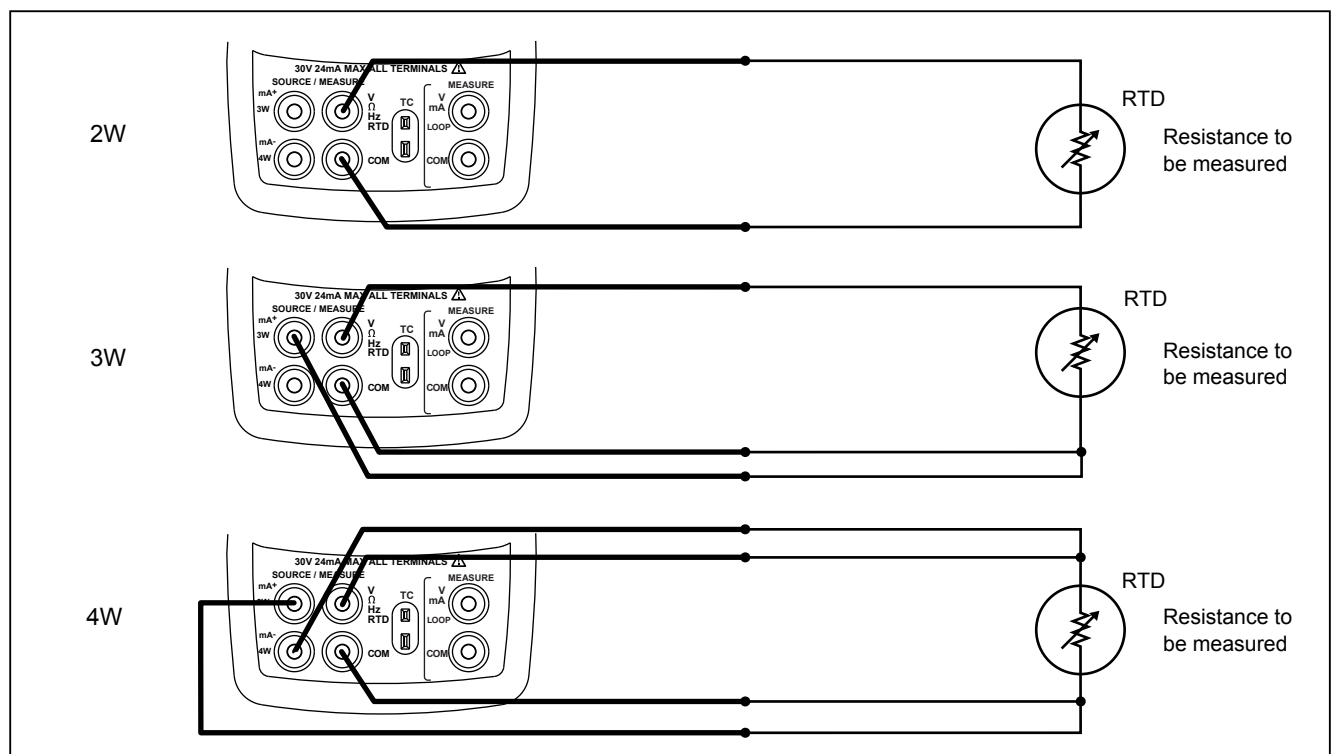

Figure 11. Measuring Temperature with an RTD, Measuring 2-, 3-, and 4-Wire Resistance
3. Attach the RTD to input terminals as shown in Figure 11.